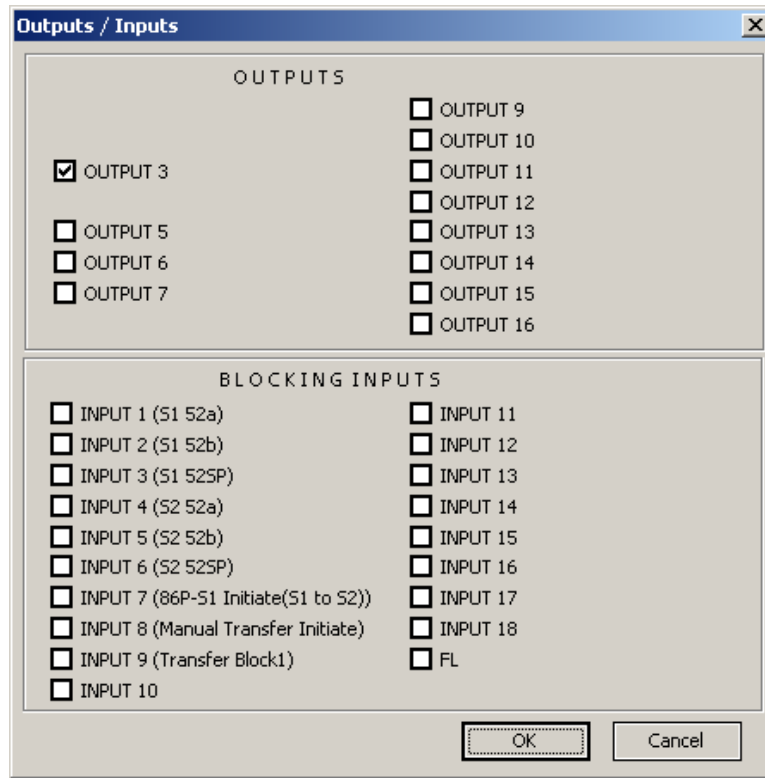

Figure 4-74 50BF #1 Source 1 Breaker Failure I/O Selection Dialog Screen
**I/O Selection** — The I/O Selection button opens the 50BF #1 Source 1 Breaker Failure Outputs/Blocking Inputs Selection Dialog Screen (Figure 4-74). This screen allows any input or the Fuse Loss (FL) function to be selected to block the 50BF #1 Function. The 50BF #1 Function can also be used to activate a selected output when it times out.